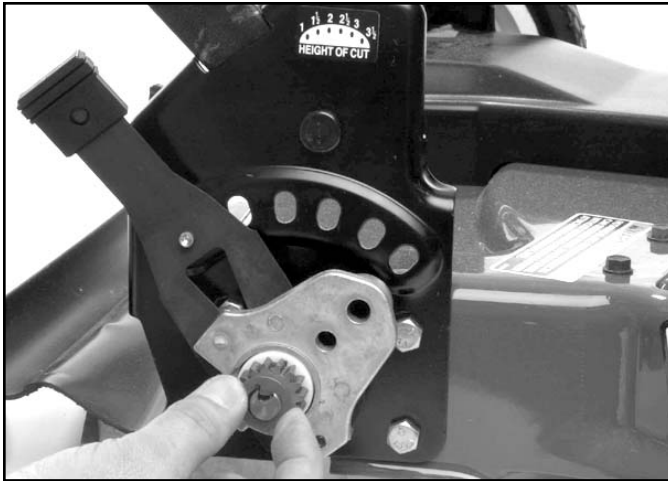

Fig 140
15. Slip the spring onto the end of the output shaft and secure with the special retaining clip. Again, make sure that the center tab fits properly into the keyway to prevent rotation of the clip (Fig. 140).